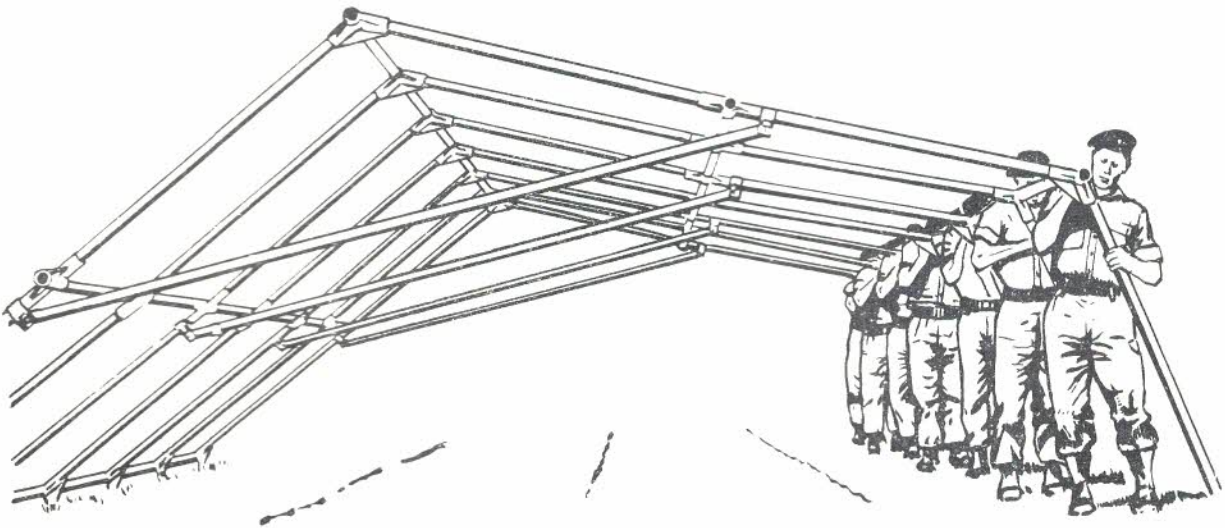

FIG 23 - FITTING UPPER WALL SUPPORTS TO EAVE LINE
33. Lay out seven lateral supports from positions 8 to 14 (see Fig 10). Lift the roof frame at the eave line, and fit the supports as shown in Fig 23.
47. Repeat the drill laid down in paras 35 to 39. (See also Figs 23 and 27). When the upper wall is completed secure the corner guys.